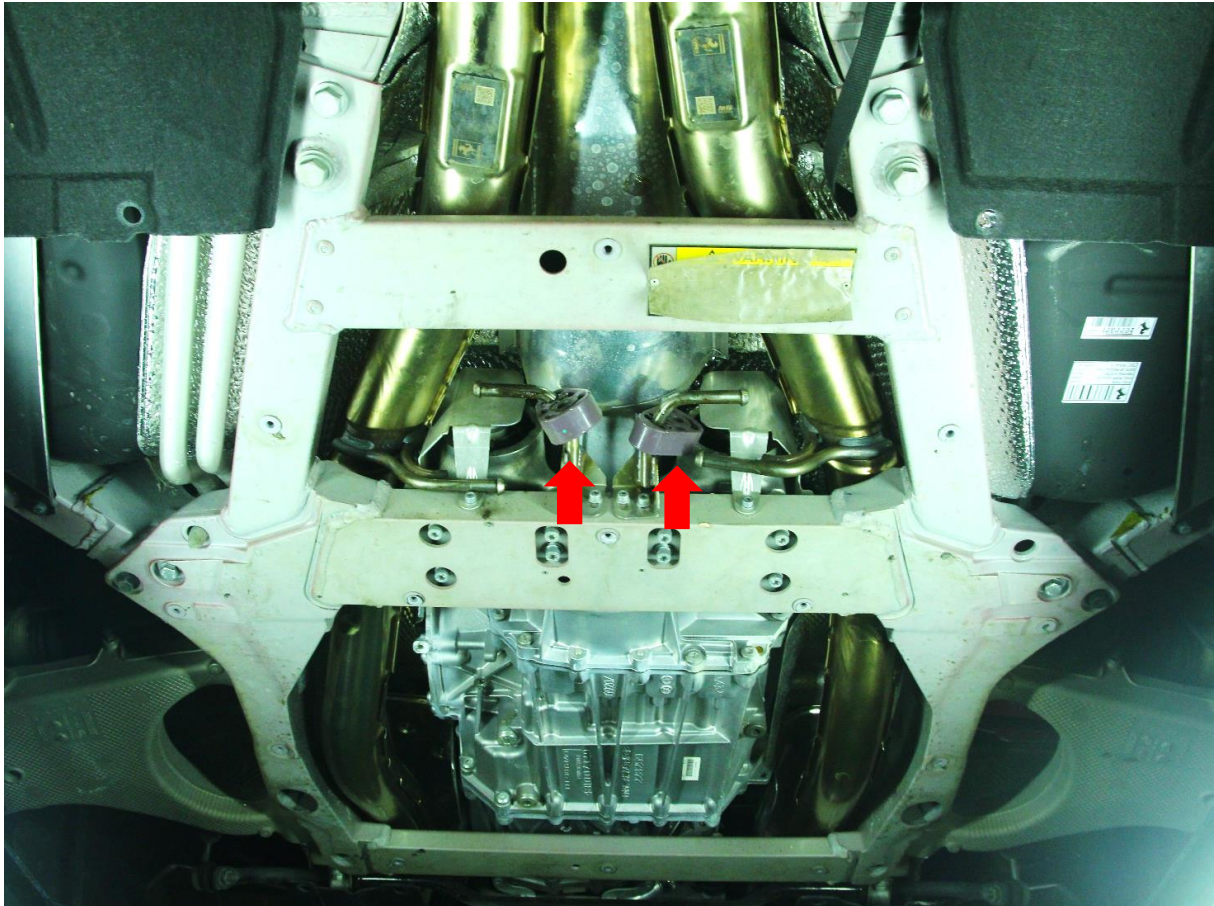

Fig. 7
6. Remove bushes from the front of the muffler and move them backward so that have space to remove the mid pipe. (Fig 7)